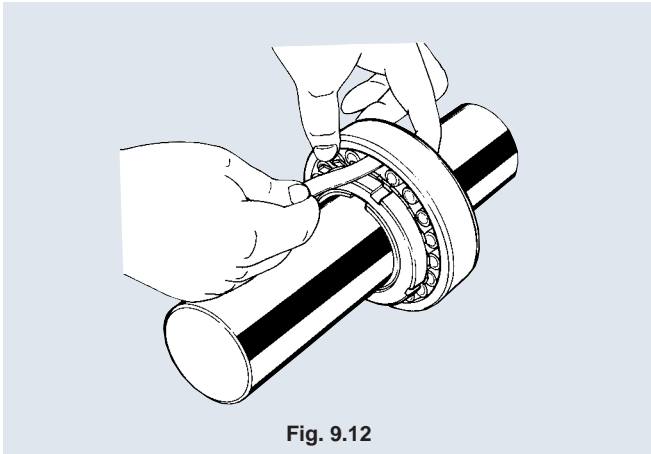

Fig. 9.12
- (3) Fit the bearing over the adapter sleeve on the shaft as tight as possible, so that the bearing inner ring is fully seated onto the taper on adapter sleeve.
- (4) Lightly tighten the nut until the sleeve is seated on the shaft.
- (5) When fully tightening a self-aligning ball bearing, make sure that its radial clearance becomes approximately 1/2 that before fitting. For a self-aligning roller bearing, tighten the nut while measuring its radial clearance with a thickness gage so that the reduction of radial internal clearance value in **Table 9.1** is reached. Make sure that an installed self-aligning ball bearing can turn smoothly by hand (ss **Figs. 9.12 and 9.13**).